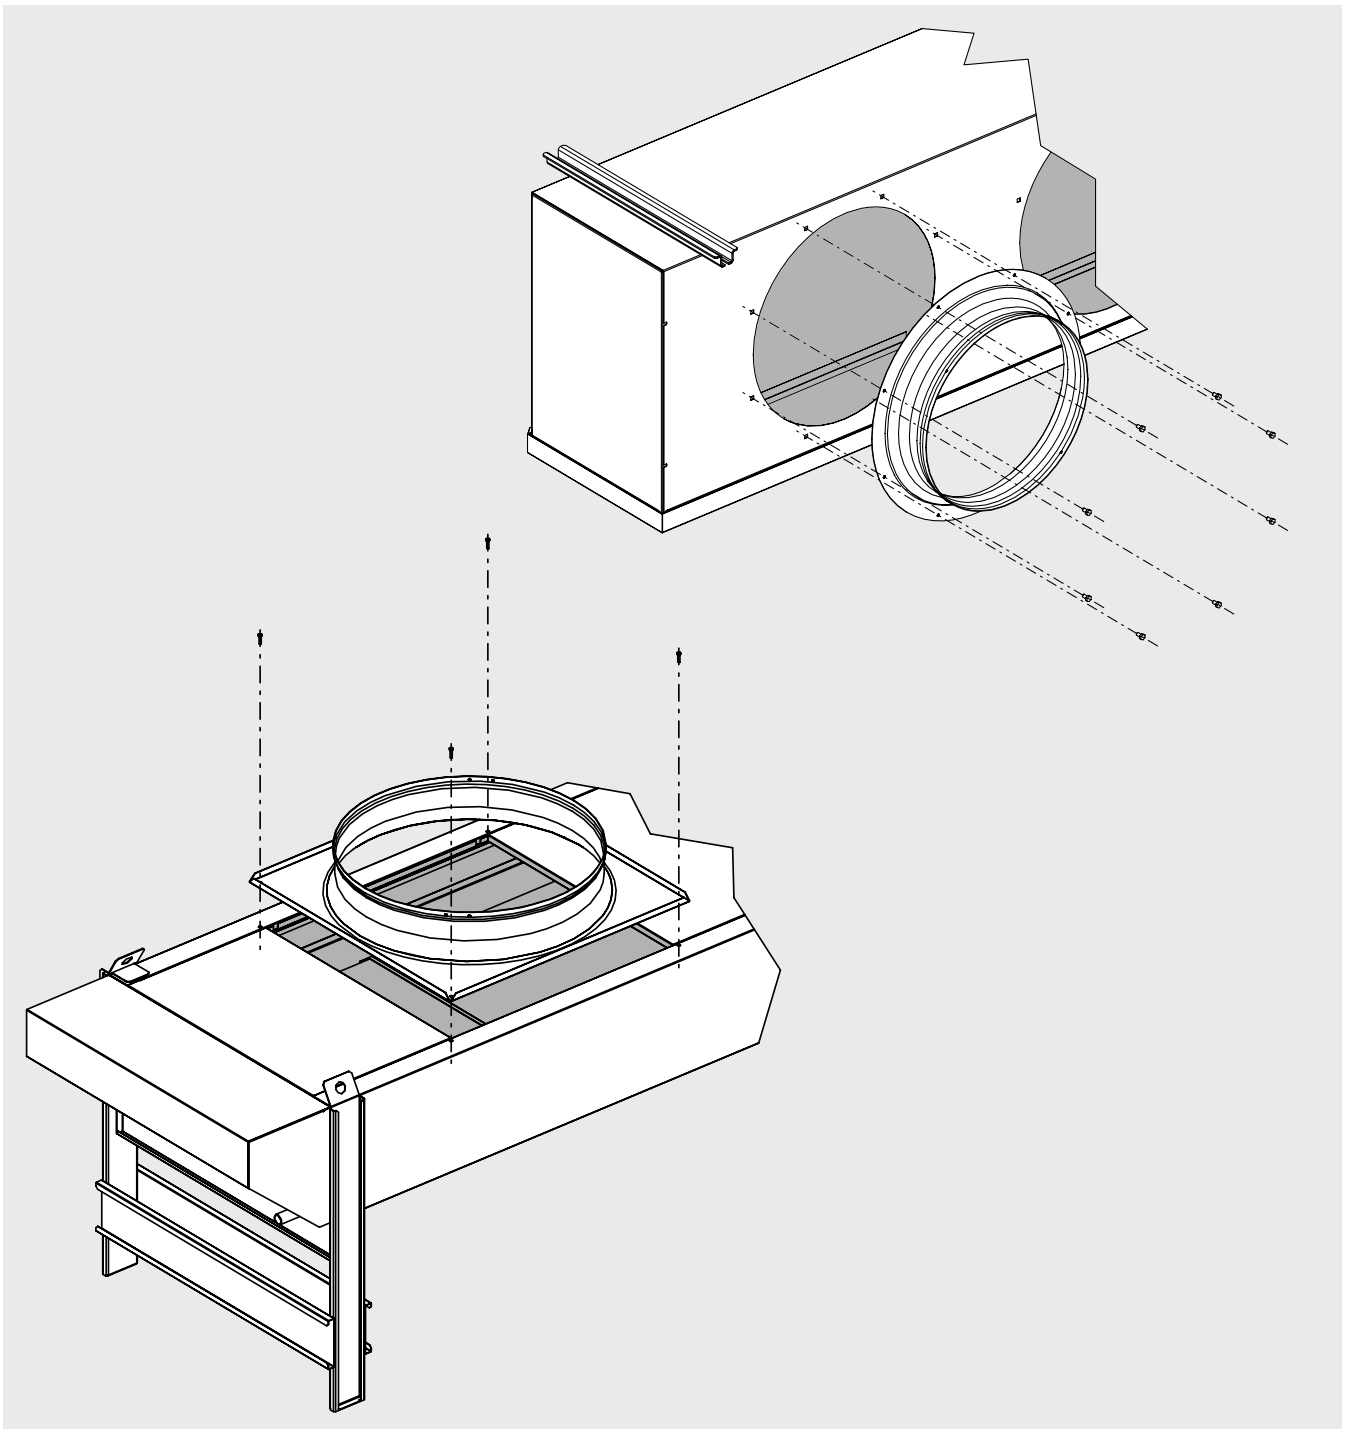

Figure 8
- 3.9 Secure the fan shroud in position by tightening the screws and washers or flange screws supplied with the fan shroud. See Table 2 for screw tightening torque. Use all fixing points. See Figure 8.